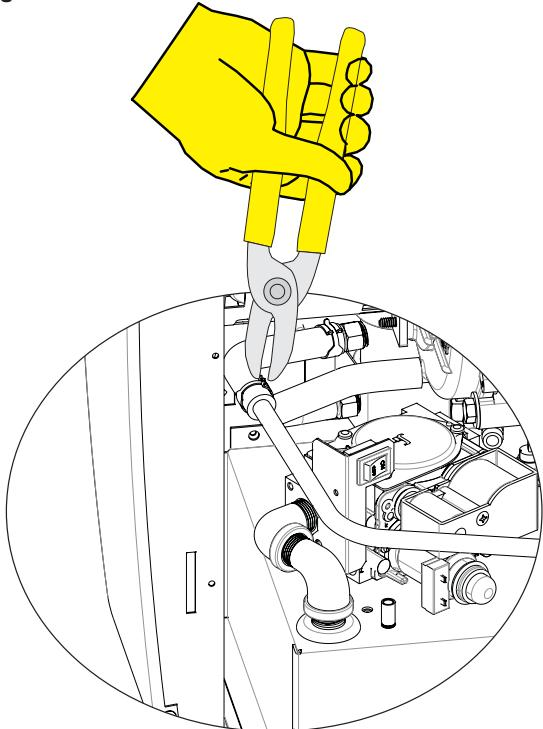

Figure 10
13. Insert the "L" shaped end of the condensate tube into the black condensate hose attached to the condensate trap. Use the pliers to move the hose clamp to the portion of the condensate hose which is over the condensate tube. **See Figure 10.**